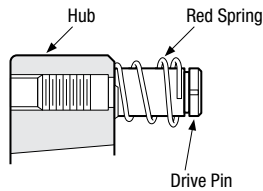

Figure 1
1. Apply Loctite® #242 (or #290, or equivalent) to drive pin threads. Insert the drive pin into the hub and tighten until the shoulder of the pin is against the hub. (Figure 1)